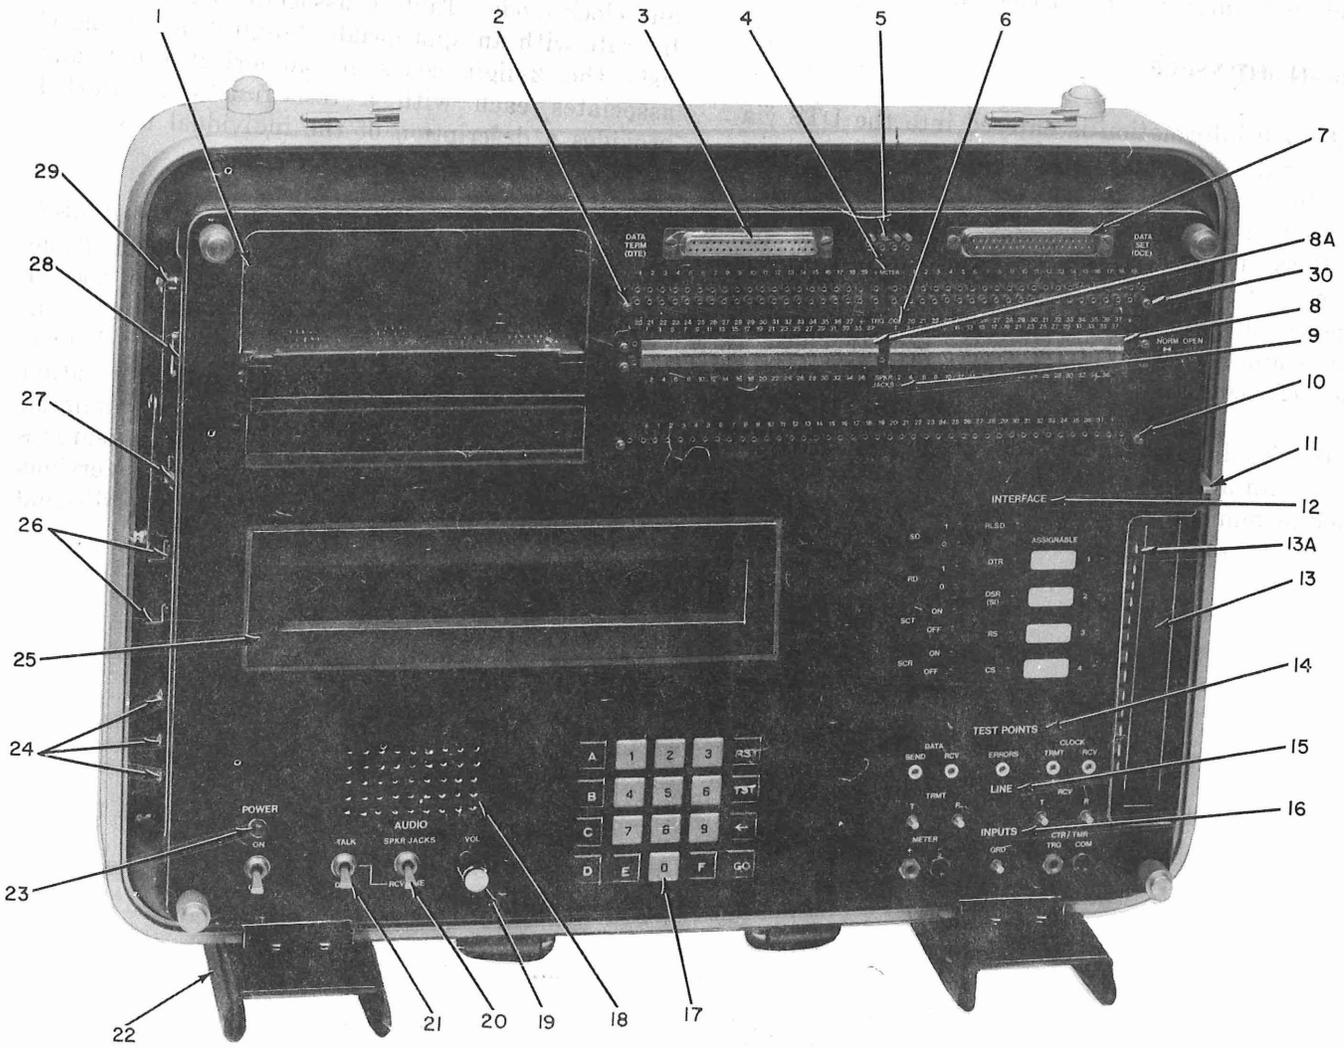

Fig. 8—DTS Controls and Indicators
**3.06** Data sets to be tested are connected to the DTS via the DCE connector. The DTE connector is provided for data terminal access. The leads of these connectors link through the interface lead switches [Fig. 8 (8)] to the common interface lead jacks [Fig. 8 (10)]. With both the